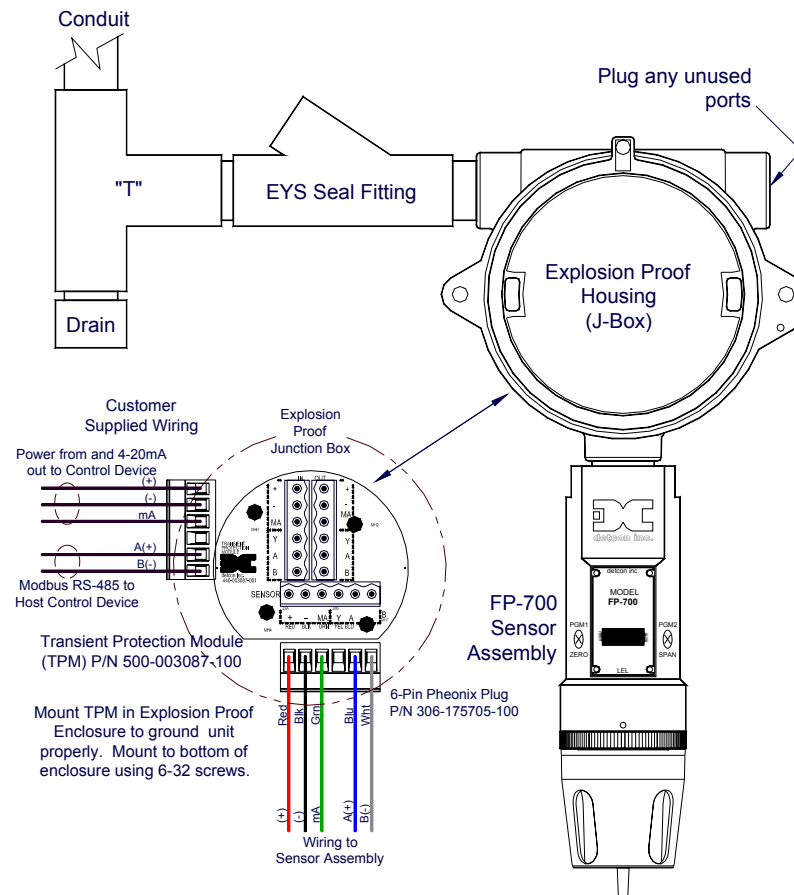
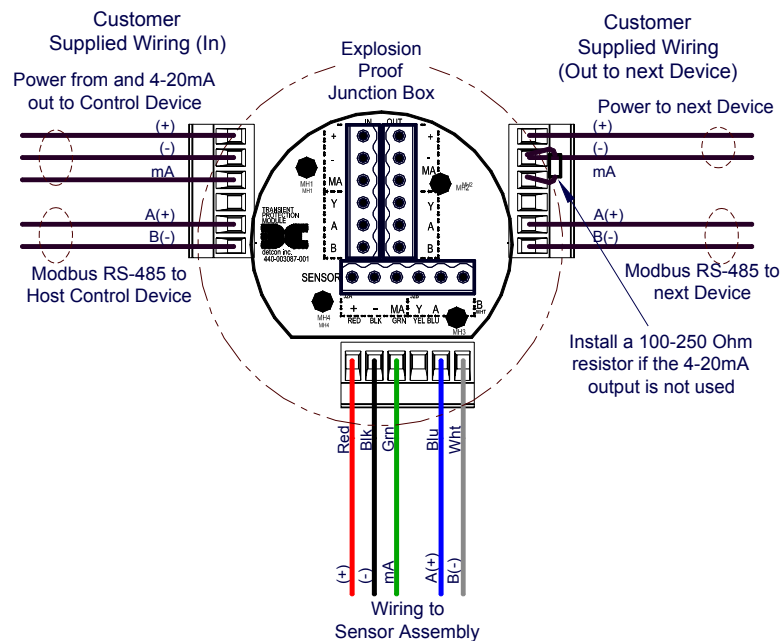

Figure 10 Typical Installation
Figure 11 Sensor Wire Connections
NOTE: In all installations the gas sensor should point straight down, refer to Figure 10. Improper sensor orientation may result in false readings and permanent sensor damage.
Proper electrical installation of the gas sensor is critical for conformance to Electrical Codes and to avoid damage due to water leakage. Refer to Figure 10 and Figure 11 for proper electrical installation.
NOTE: If a conduit run exits the secondary port, repeat the installation technique shown in Figure 10.
In Figure 10, the drain allows H₂O condensation inside the conduit run to safely drain away from the sensor assembly. The electrical seal fitting is required to meet the National Electrical Code per NEC Article 500-3d (or Canadian Electrical Code Handbook Part 1 Section 18-154). Requirements for locations of electrical seals are covered under NEC Article 501-5. Electrical seals also act as a secondary seal to prevent water from entering the wiring terminal enclosure. However, they are not designed to provide an absolute water-tight seal, especially when used in the vertical orientation.
- Observing correct polarity, terminate the 3-conductor 4-20mA field wiring (+, -, mA) to the sensor assembly wiring in accordance with the detail shown in Figure 11. If the 4-20mA outputs are not used, install a 100-250Ω resistor between the mA and (-) terminals on the Transient Protection Module.
- a) If applicable, terminate the RS-485 serial wiring as shown in Figure 11. Use the second plug (Out) as termination point on the customer side to facilitate a continuous RS-485 serial loop